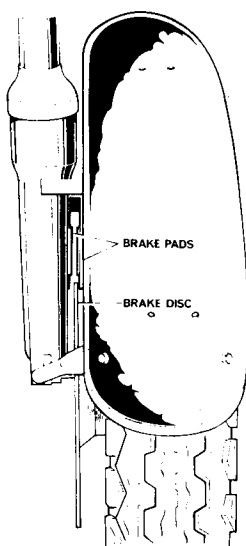

Fig. H9 Guiding brake disc between brake pads
- 5 Offer the wheel with both dust covers in position and, with care, guide the disc between the brake pads. See *Fig. H9*.